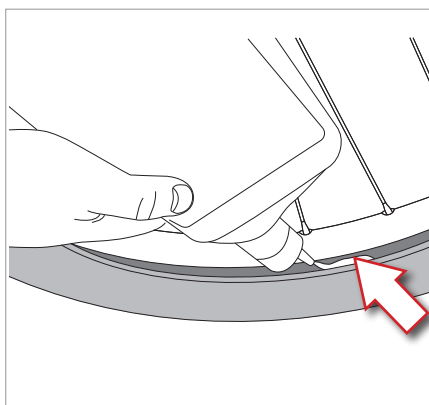

Fig.19
- If you do not have a syringe, unseat the beads on one side of the tyre, pour in the liquid, inserting the quantity suggested by the liquid manufacturer, and reposition the bead in the central channel of the rim (Fig. 19).